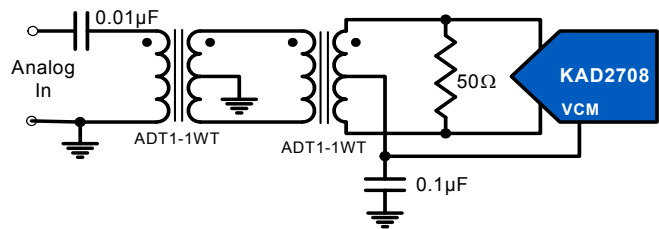

FIGURE 23. TRANSFORMER INPUT, GENERAL APPLICATION
Best performance is obtained when the analog inputs are driven differentially. The common-mode output voltage, VCM, should be used to properly bias each input, as shown in Figures 23 and 24. An RF transformer gives the best noise and distortion performance for wideband and/or high intermediate frequency (IF) inputs. Two different transformer input schemes are shown in Figures 23 and 24.